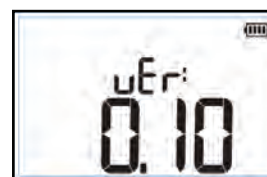

Figure 6. Firmware Version
2. Push **ENTER** until **uEr** : and the version number shows on the display. See Figure 6.